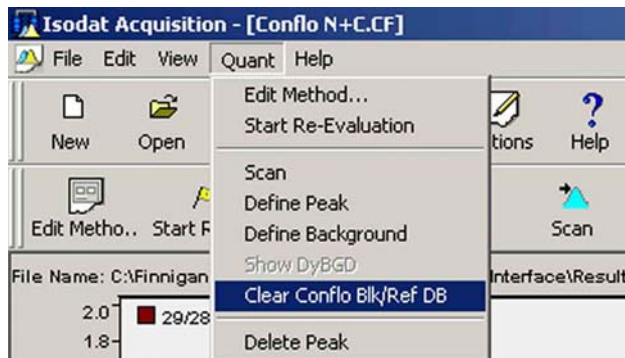

Figure 4-18. Deleting a database entry via Quant menu
2. Select **Quant > Clear ConFlo Blk/Ref DB**. See Figure 4-18.